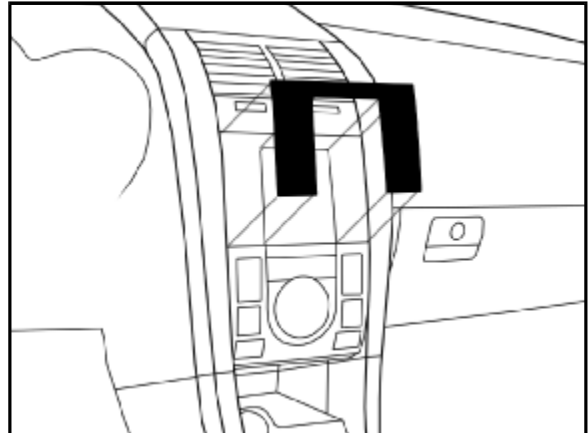

Fig. I1
A. Align part uniformly to edge of factory components. Edge of appliqué should be flush to edge of factory component, ±1.0mm. (Fig. I1).